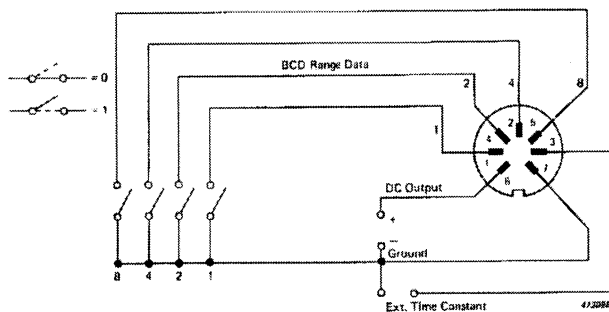

Fig. 3.6. Connections to rear panel DIN socket
The range setting of the 2426 may be controlled remotely by connection to the BCD input of the DIN socket on the rear panel. Multiplying the decimal value of the code by 10 gives the number of dB above the 1 mV range. The BCD code used for range selection is given in Table 3.1 with "0" corresponding to a short circuit and "1" to an open circuit. Thus no active electronics are required for remote range control, but a simple mechanical switch arrangement as shown in Fig.3.6 may be used. However, any active logic electronics operating on + 5 V DC may also be used.
3. Connect the BCD data output of the 2426 to external instrument. See Fig. 3.6 and Table 3.1 for connection diagrams and range code.
The DC output from the rectifier circuits of the 2426 is available between pins 6 (positive) and 7 (ground) of the DIN socket of the rear panel (Fig. 3.6).
The averaging time of the RMS circuit will be increased by 1 second for every $2,5\ \mu\text{F}$ capacitance connected across pin 3 (positive) and pin 7 (ground) of the DIN socket (Fig. 3.6). Thus the total averaging time will be equal to the sum of the internal averaging time (0,27 s for "Fast", 3 s for "Slow" METER DAMPING) and the external averaging time (1 s per $2,5\ \mu\text{F}$). For example, for the "Slow" METER DAMPING, a $10\ \mu\text{F}$ capacitor will increase the averaging time of the RMS circuit from 3 to 7 seconds.
The decay time of the "Peak" circuits of the 2426 may be changed by the connection of an external capacitor or resistor to pins 3 and 7 of the DIN socket (Fig. 3.6).